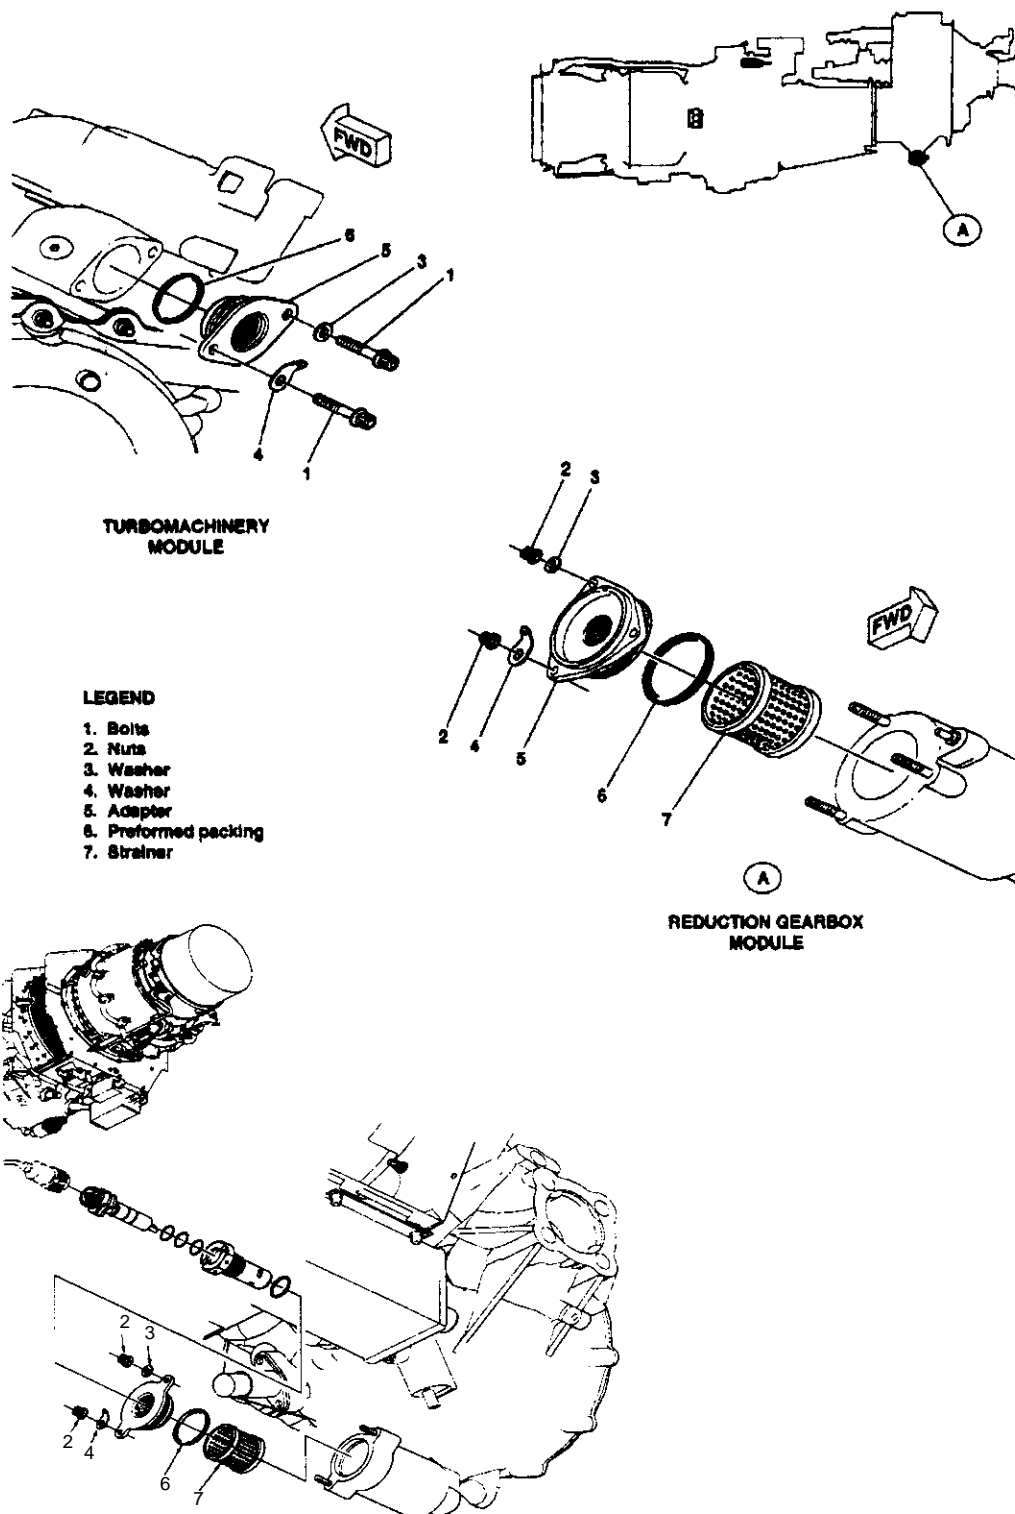

FIGURE 7 - OIL DRAINING PW150A ENGINES
5.4.3 Inhibit PW150A engine oil systems as follows (see Figure 7):